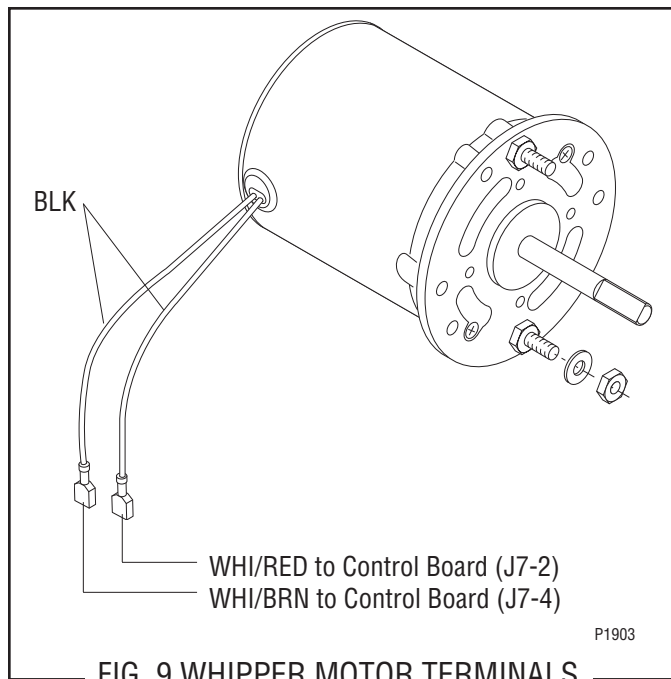

FIG. 9 WHIPPER MOTOR TERMINALS
12. Install new motor on rear of front panel and secure with two nuts. Connect the black leads from the motor to the main wiring harness. Refer to Fig. 9 when reconnecting wires.